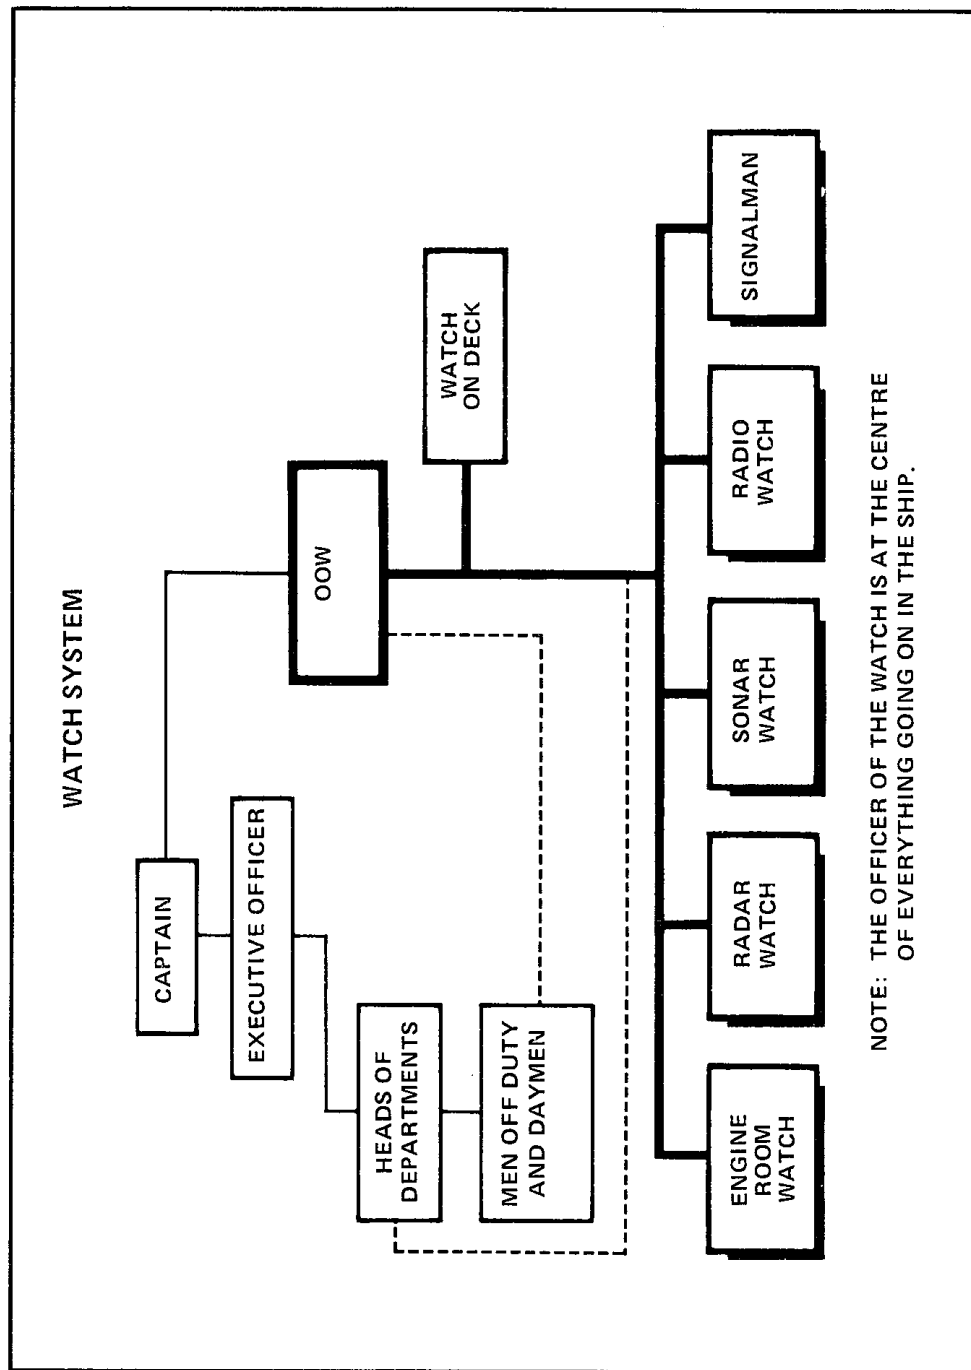

Figure 9-14 Watch System
67. **Summary** — It should be clear by now that at sea **each department** has a **watch of men** closed up to do its part in the running of the ship (see Figure 9-14). Since the OOW is directly responsible to the Commanding Officer for the running of the ship, it is necessary that all these watches work closely with him and keep him informed about what is happening in the ship. Unless this is done the whole system breaks down.